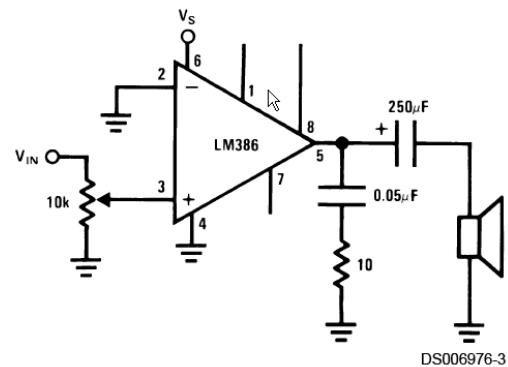

Figure 3.16: audio amplifier schematic with a gain of 20 (from the datasheet)
2. Construct an audio amplifier with a gain of 20 using the LM386 (see Figure 3.16). **You will not have all of the exact components indicated in this figure, but get as close as your parts will allow. Also, the input audio signal, v_{in} , would ideally come in on the indicated 10 k Ω potentiometer for volume control. In your audio amplifier, feed the audio signal directly to pin 3.**